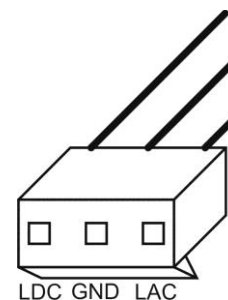

Fig.4 Leads in the indication connector.
4. Cut the leads of the signal connector in the PSB 27,6V power supply unit, separate and connect to the module, following the diagram. Connect the Lac, Ldc, GND leads of the PSU with appropriate outlets on the automation module. (see fig. 4).